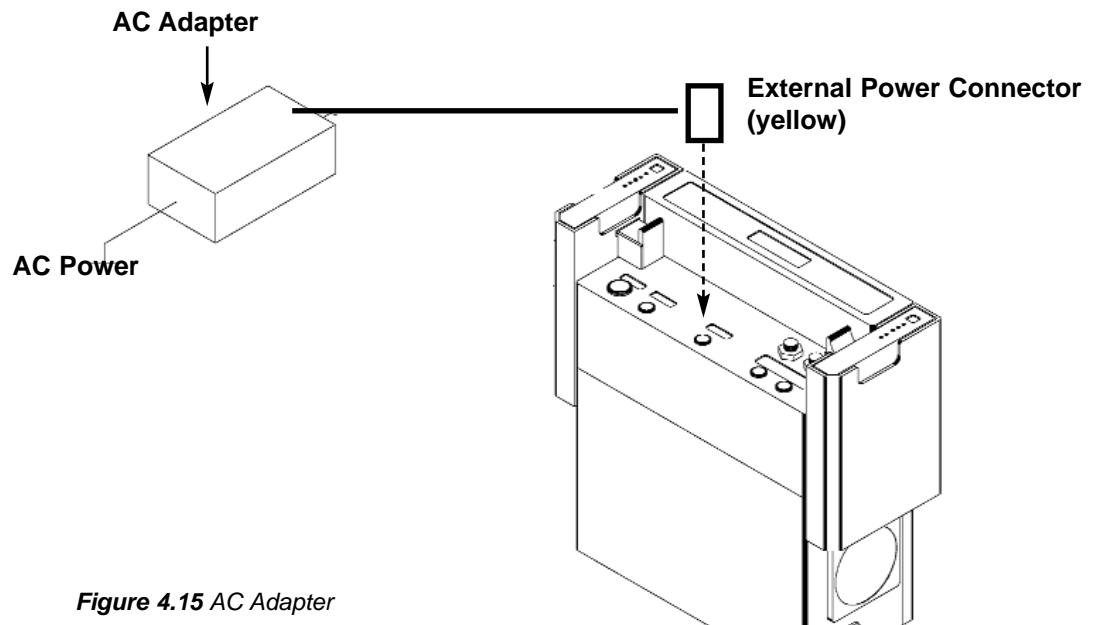

Figure 4.15 AC Adapter
- 4.5.3 Plug the AC power cable into an electrical outlet (**Figure 4.15**).
This is needed only if it is intended to run the TLC-II from electrical outlets away from the docking station (**Figure 4.15**).